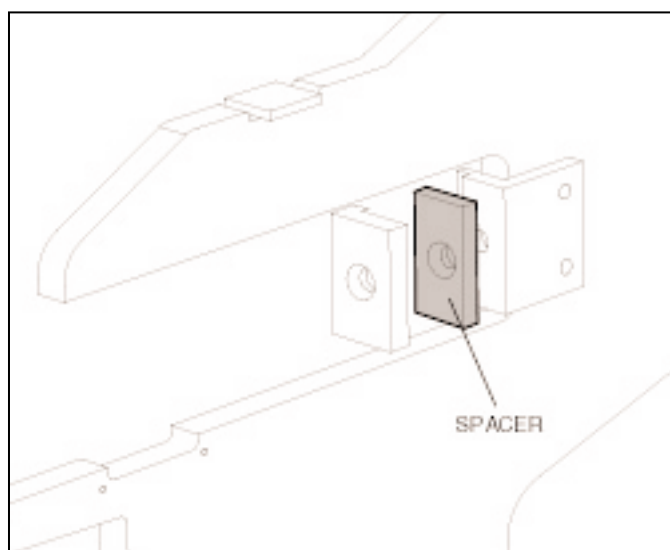

Figure 19.9 MOVE MOLD LOCK ARM BACK.
19.1.8 Remove spacer from mold throat liner assemblies. Reattach liners #448784 (figure 19.9) with 2" flat head screw #089597.